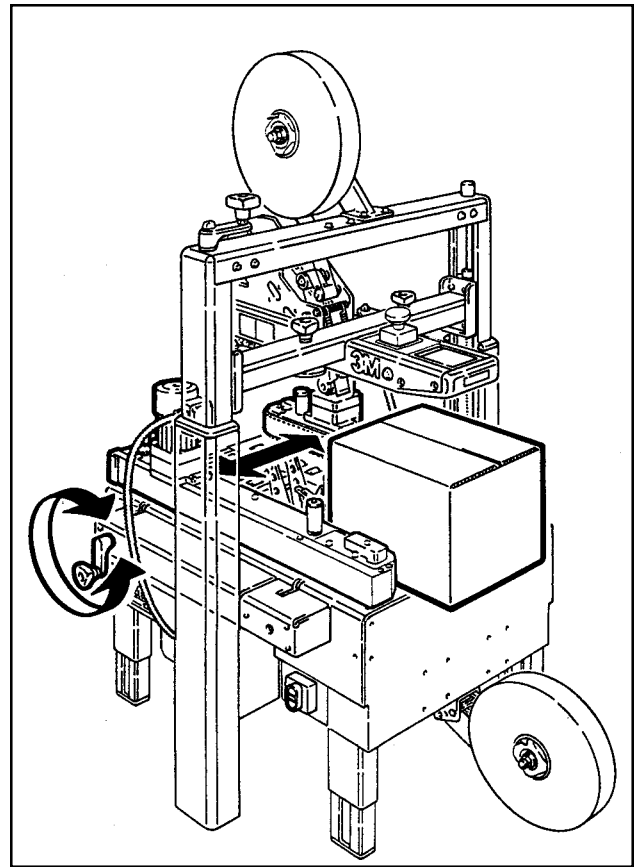

Figure 3-2 – Side Drive Belts
1. ADJUST DRIVE BELTS (Figure 3-2)